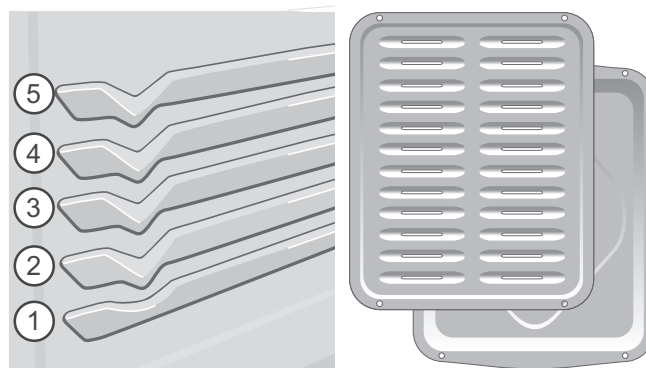

Figure 28: Broil rack positions and broil pan with insert
2. Position bakeware in oven to the preferred rack position. (Figure 28).